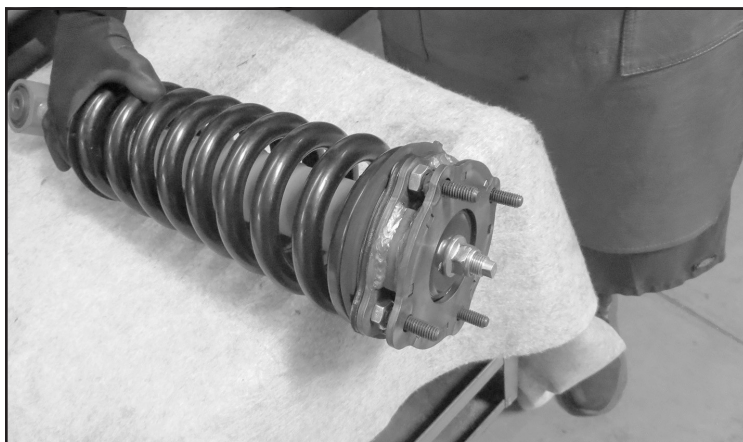

FIGURE 10 - STEP 10
10. Install FT70304 (Strut Spacer) onto the strut using the factory hardware. **SEE FIGURE 10**